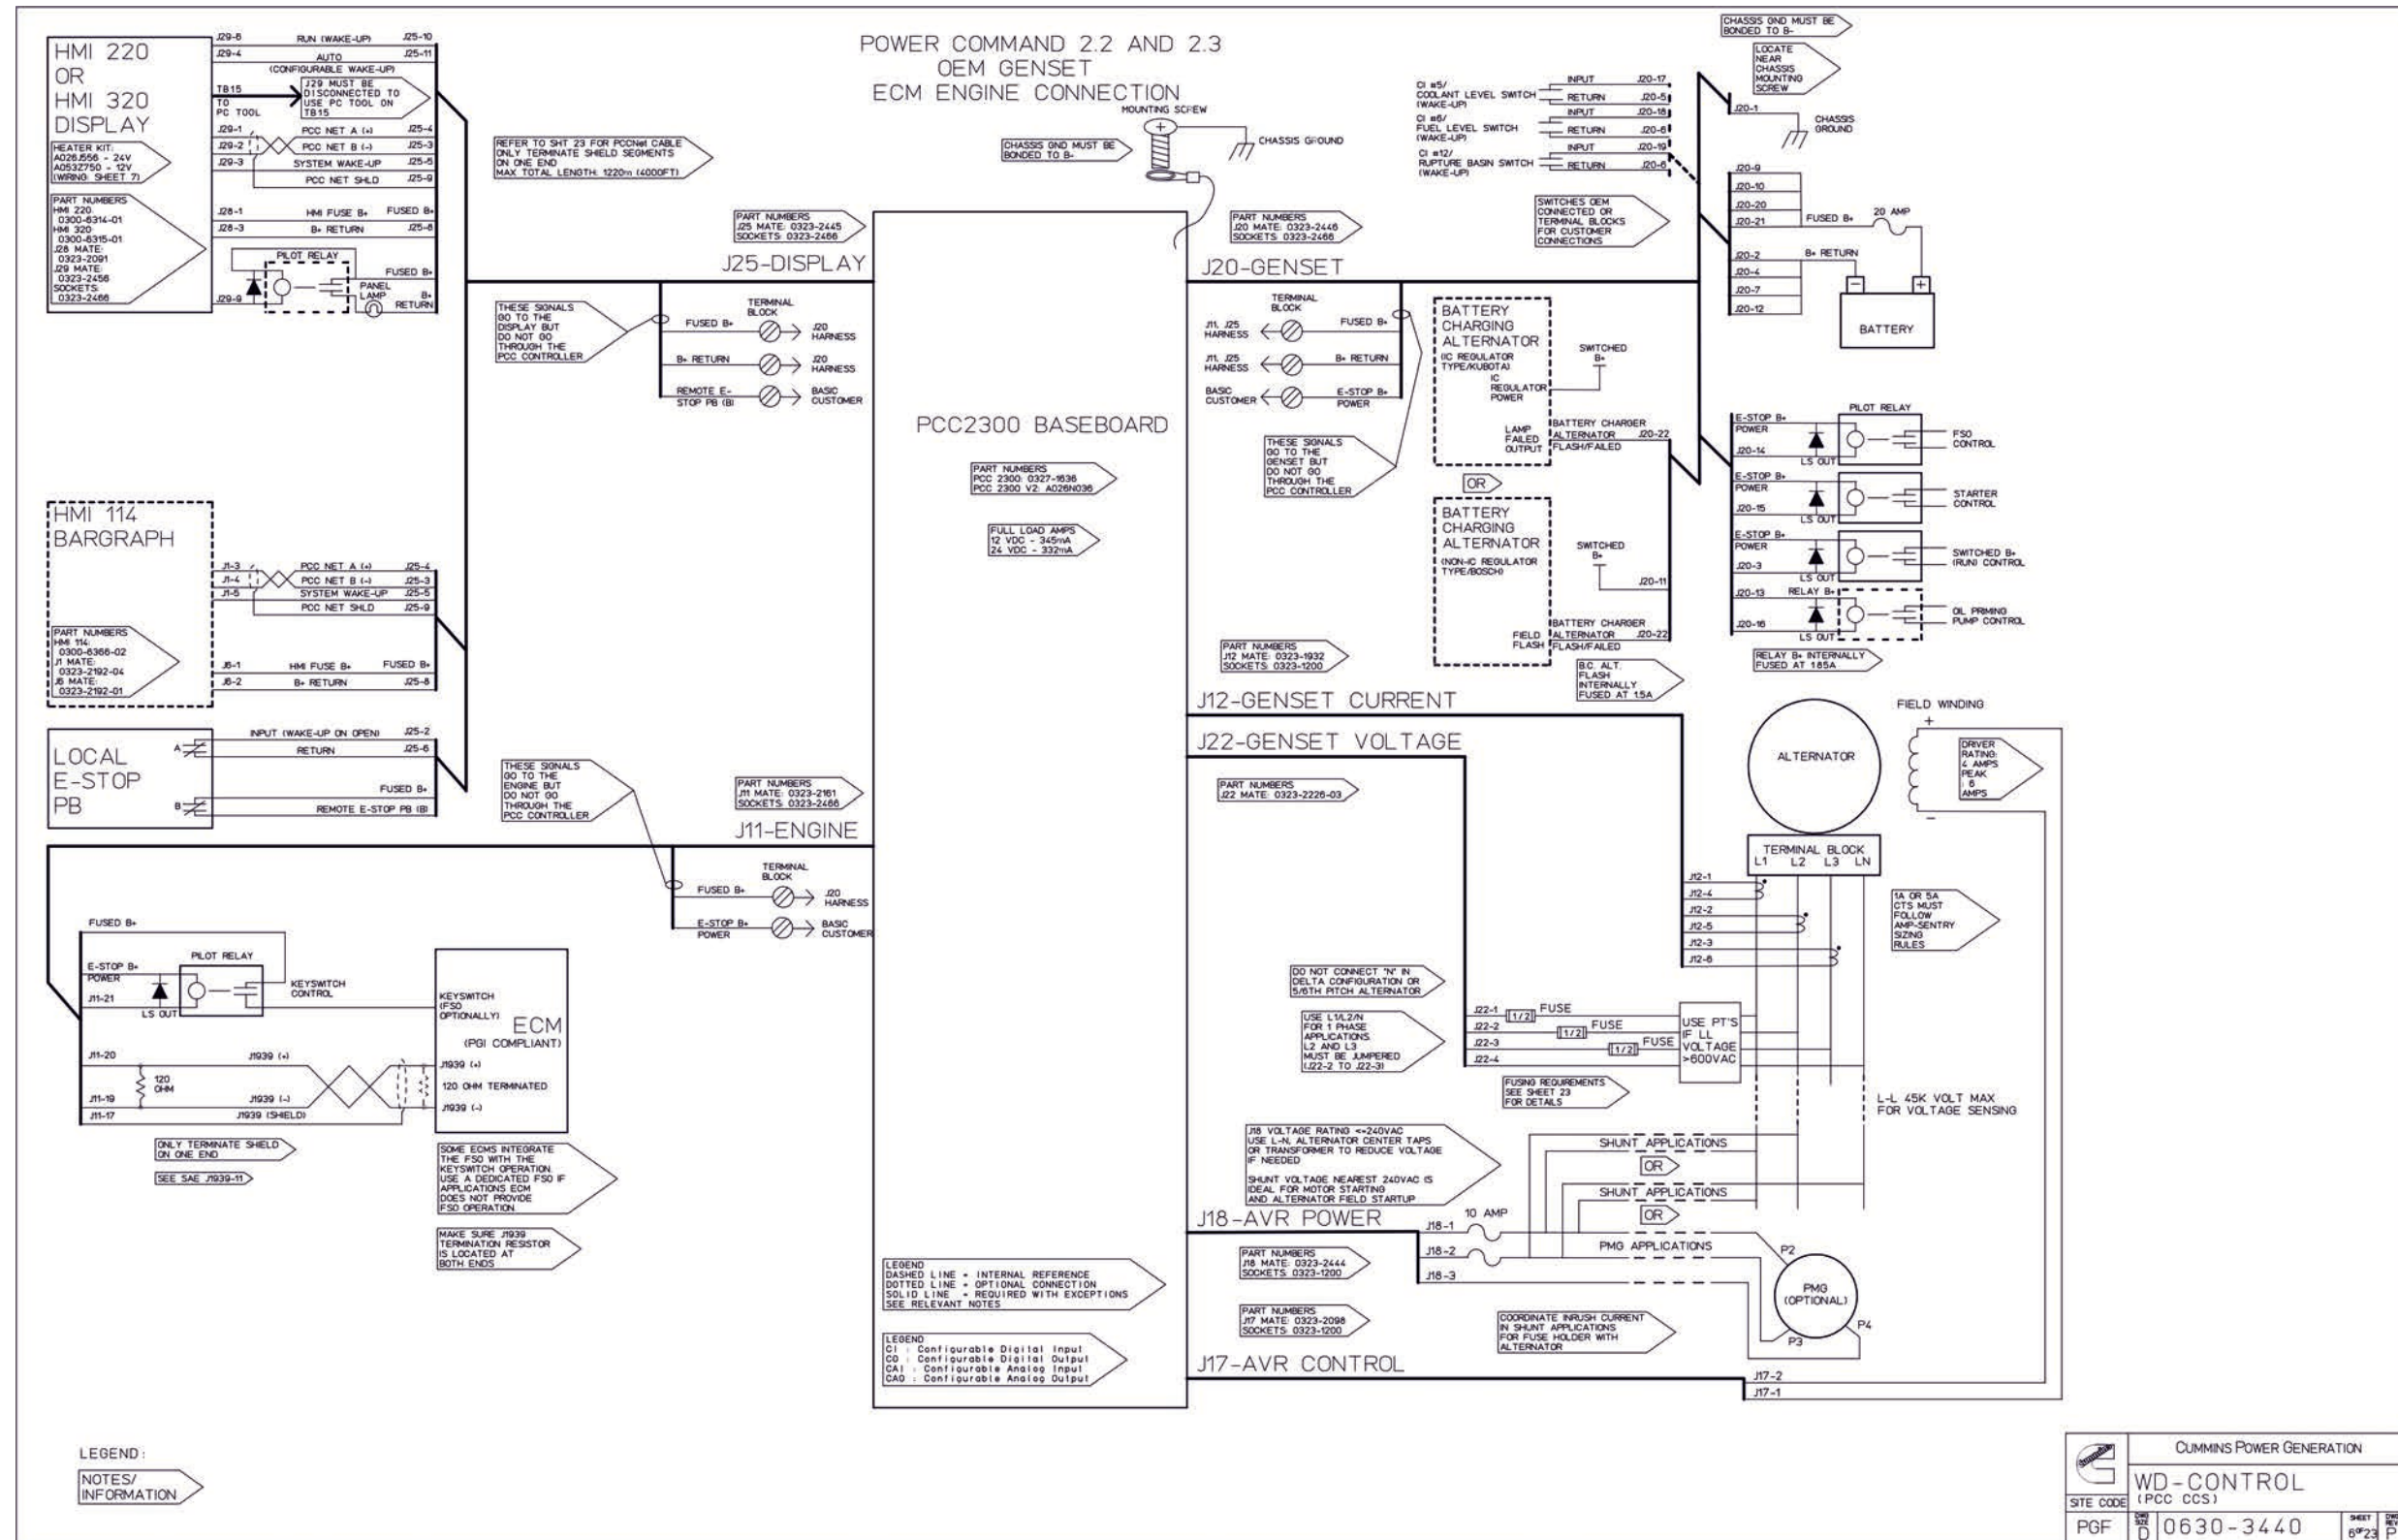

FIGURE 71. PCC OEM GENSET ECM ENGINE CONNECTIONS
- Figure 71. PCC OEM Genset ECM Engine Connections 447